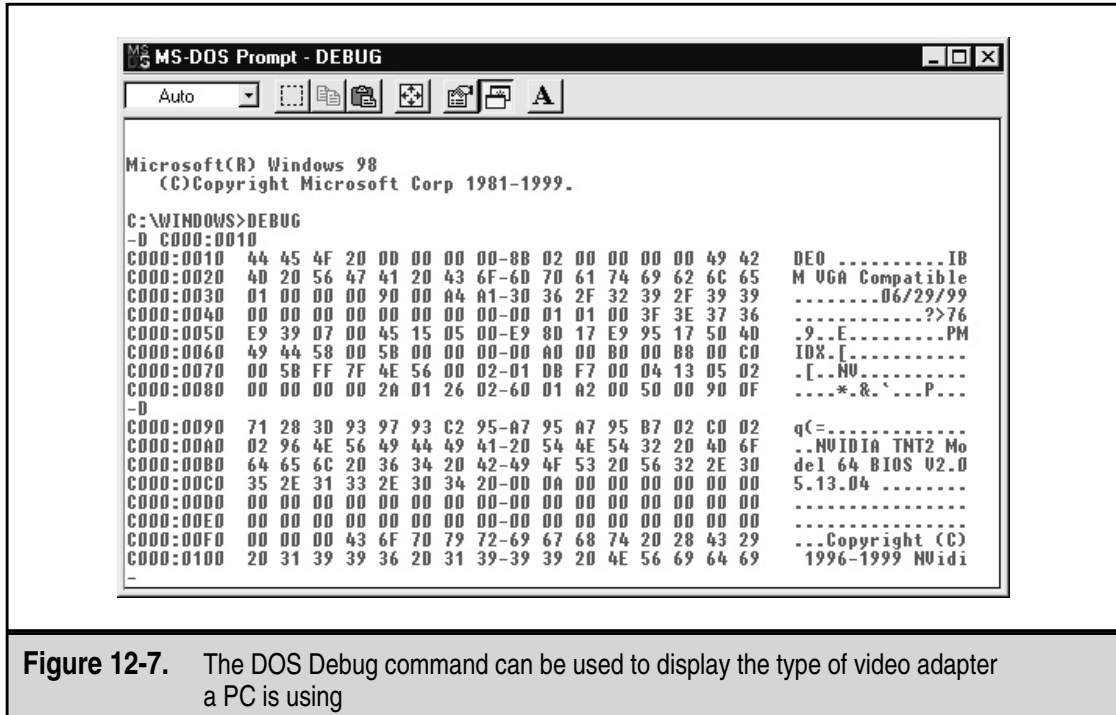

Figure 12-7. The DOS Debug command can be used to display the type of video adapter a PC is using
If you are in doubt about the type of video card installed or in use in a PC, use the DOS Debug utility, shown in Figure 12-7, which is included with virtually all versions of Windows. To use the DEBUG command to display the video card information on your PC, follow these steps:
3. Enter **d c000:0010** as shown in Figure 12-7.